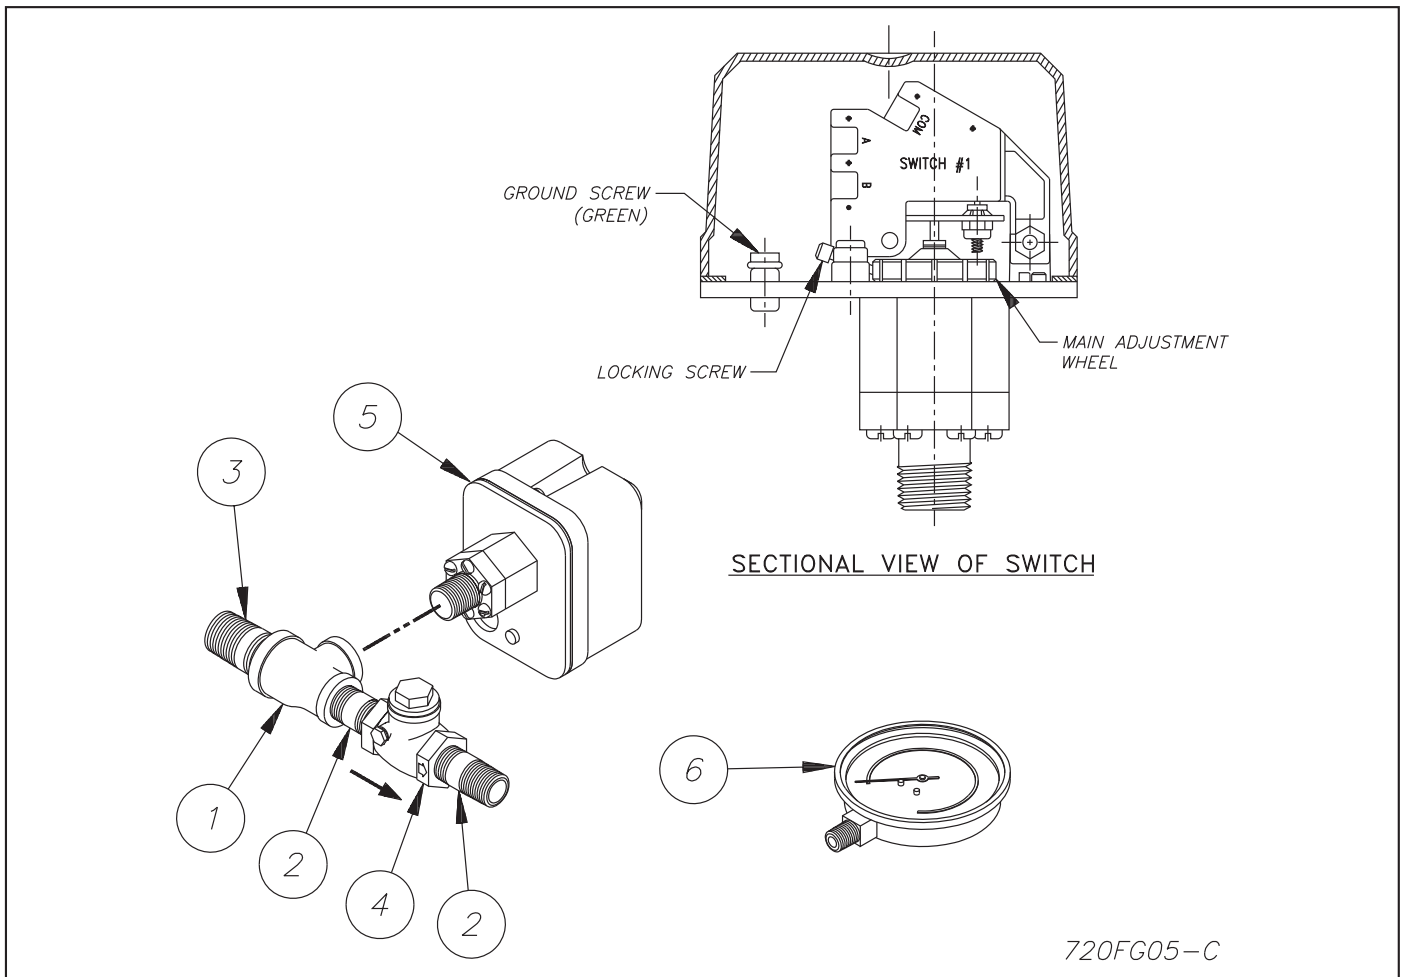

Figure 5 — Double Interlock
Adjusting system pressure to approximately 10 psi (0,7 bar) is accomplished by referring to Reliable Bulletin 251 for adjustment procedure. The low pneumatic pressure supervisory switch (Item 5, Figure 5) is factory set to operate between 8 and 4 psi (0,55 and 0,28 bar) with decreasing pressure. Adjustment, if required, should be made according to Bulletin A05-0176 included with the switch.
Connect the Common (C) and Normally Closed (NC) terminals of the system low pressure switch (Figure 5) to initiating Zone 2 as shown in Figure 2 or 3. Switch contacts must be in the open position when the system is pneumatically pressurized to 10 psi (0,5 bar). Install fire detection devices to initiating Zone 1 as shown in Figure 2 or 3.
3. The Double Interlock Switch/Gauge Trim Kit (P/N 6501200110 or P/N 6501200119), illustrated in Figure 5, consists of items 1 through 6. Assemble the kit using a suitable Teflon-based pipe thread sealant applied to each male thread.
The pressure switch is factory adjusted for operation between 8 to 4 psi (0,55 to 0,28 bar). If field adjustment is required or the lowest possible setting (4 psi or 0,28 bar) is desired, refer to Figure 5 and proceed as follows: